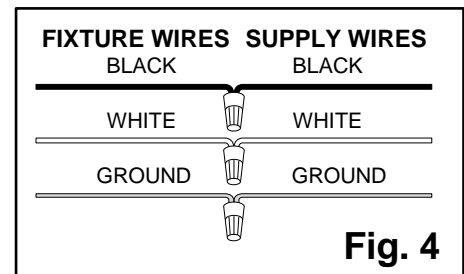

Fig. 4
12. Connect the **black fixture wire** to the **black (+) supply wire** and connect the **white fixture wire** to the **white supply wire (-)** using **wire nuts**. Connect the **supply ground wire** to the **fixture ground wire** using a wire nut (**Fig. 4**).